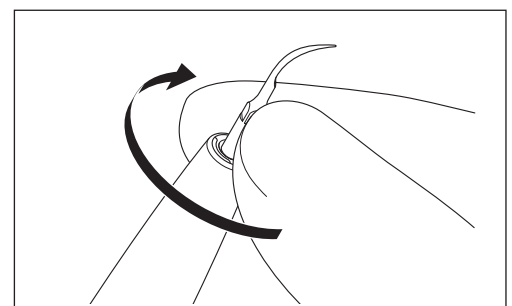

Fig. 15
- 2) Push the Tip into the distal end of the Handpiece and screw the Tip until it is lightly tightened (Fig. 15).